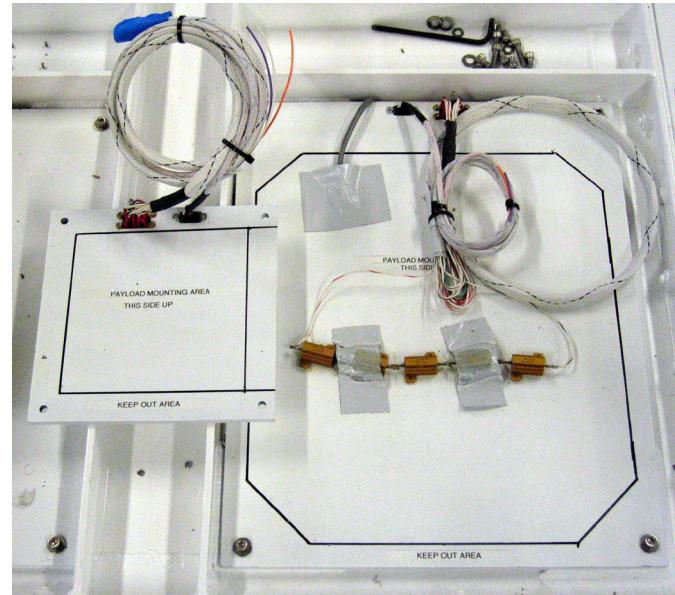

Figure 6: The small (left) and large (right) student payload mounting plates.
**Mechanical:** HASP supports two classes of student payloads. **Small** payloads have a maximum weight of 3 kg and are located on the HASP "outrigger" braces. **Large** payloads can weigh up to 20 kg and are located on the top of the HASP aluminum frame. In your payload application you will need to indicate your payload class as either small or large. **The total weight of all components associated with your payload must not be greater than the class mass limits.** Payload groups requesting the placement of payload components anywhere other than on a designated payload seat are required to submit a special request which can be included as a part of the application and must receive a waiver granting approval from LSU HASP Management, CSBF and BPO. This approval may include additional paperwork including flight safety documentation and analysis. See section VIII for more information regarding special requests. If your application is accepted for flight, your team will be sent the payload mounting plate appropriate for your class. These plates, shown in Figure 6, are constructed from  $\frac{1}{4}$ " thick PVC, include wiring for the electrical / data connections, and are marked to indicate the allowable footprint for your payload. Student